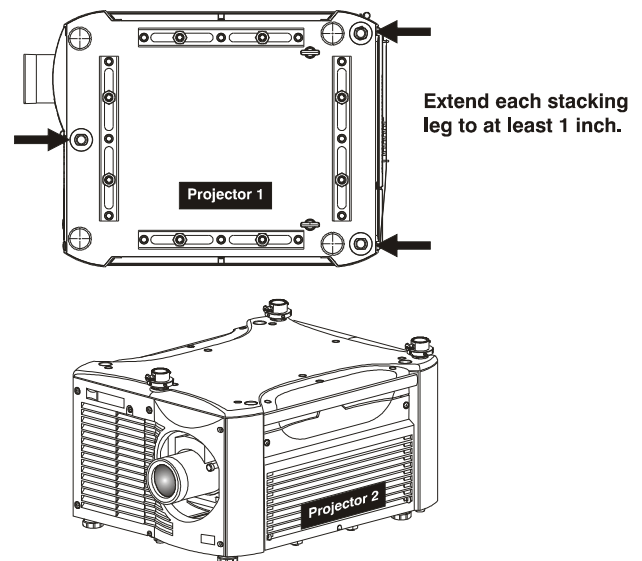

Figure 2-11 Adjust the Feet
- Place 1 projector on its side to access its adjustable feet, and stacking legs (*Figure 2-11*).